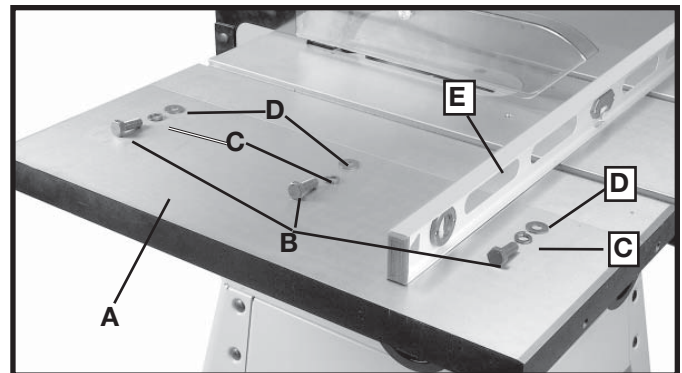

Fig. 53
1. Attach extension wing (A) Fig. 53, to the saw table. Align the three holes in the extension wing with the three holes in the side of the saw table.
FOR 36-978: Place a 7/16" Lockwasher (C) Fig. 53, then a 7/16" Flat Washer (D) on a 7/16-20 x 3/4" Hex Head Screw (B).
FOR 36-979: Place a 7/16" Lockwasher (C) Fig. 53, then a 7/16" Flat Washer (D) on a 7/16-20 x 1/4" Hex Head Screw (B).
3. With a straight edge (E) Fig. 53, align the extension wing (A) level with the saw table before fully tightening the three screws (B). Starting with the screw at the front, tighten the screw while keeping the extension wings aligned with the table. Then, move to the middle screw and follow the same procedure of aligning and tightening. Then do the same for the third screw.